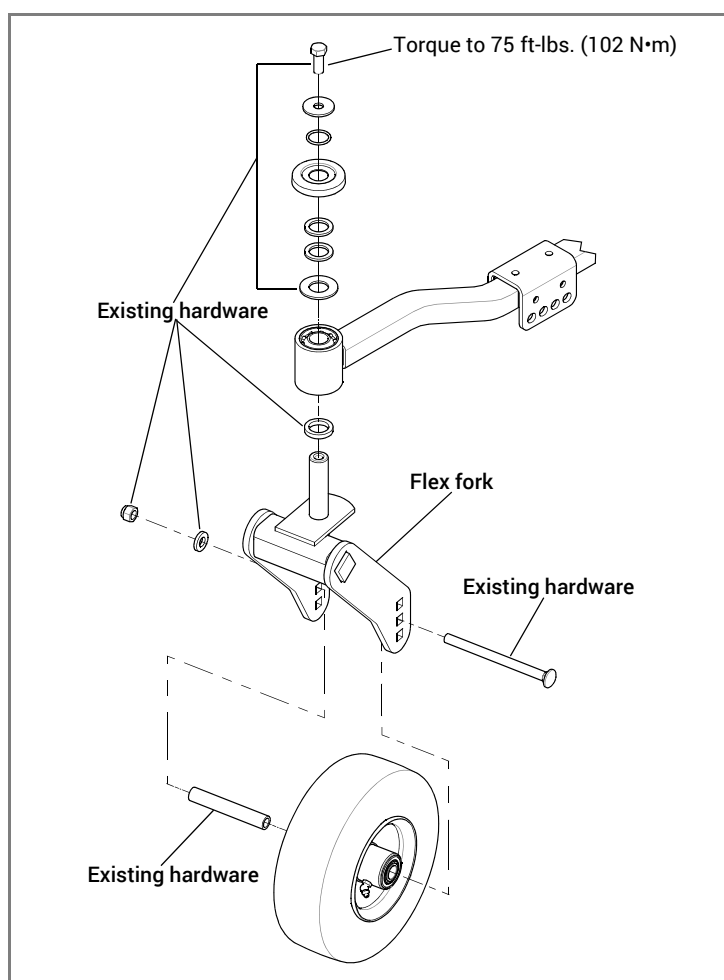

FIG. 1
4. Attach the flex fork to the mower using the existing hardware. Make sure that all hardware is replaced exactly as it was removed. FIG. 1
5. Apply one drop of LocTite[®] 242 to the bolt threads, then torque the bolt to 75 ft-lbs (102 N•m). FIG. 1
6. Attach the wheel and tire to the new flex fork using the existing hardware. Tighten the nut, then back it off so the wheel spins freely. FIG. 1